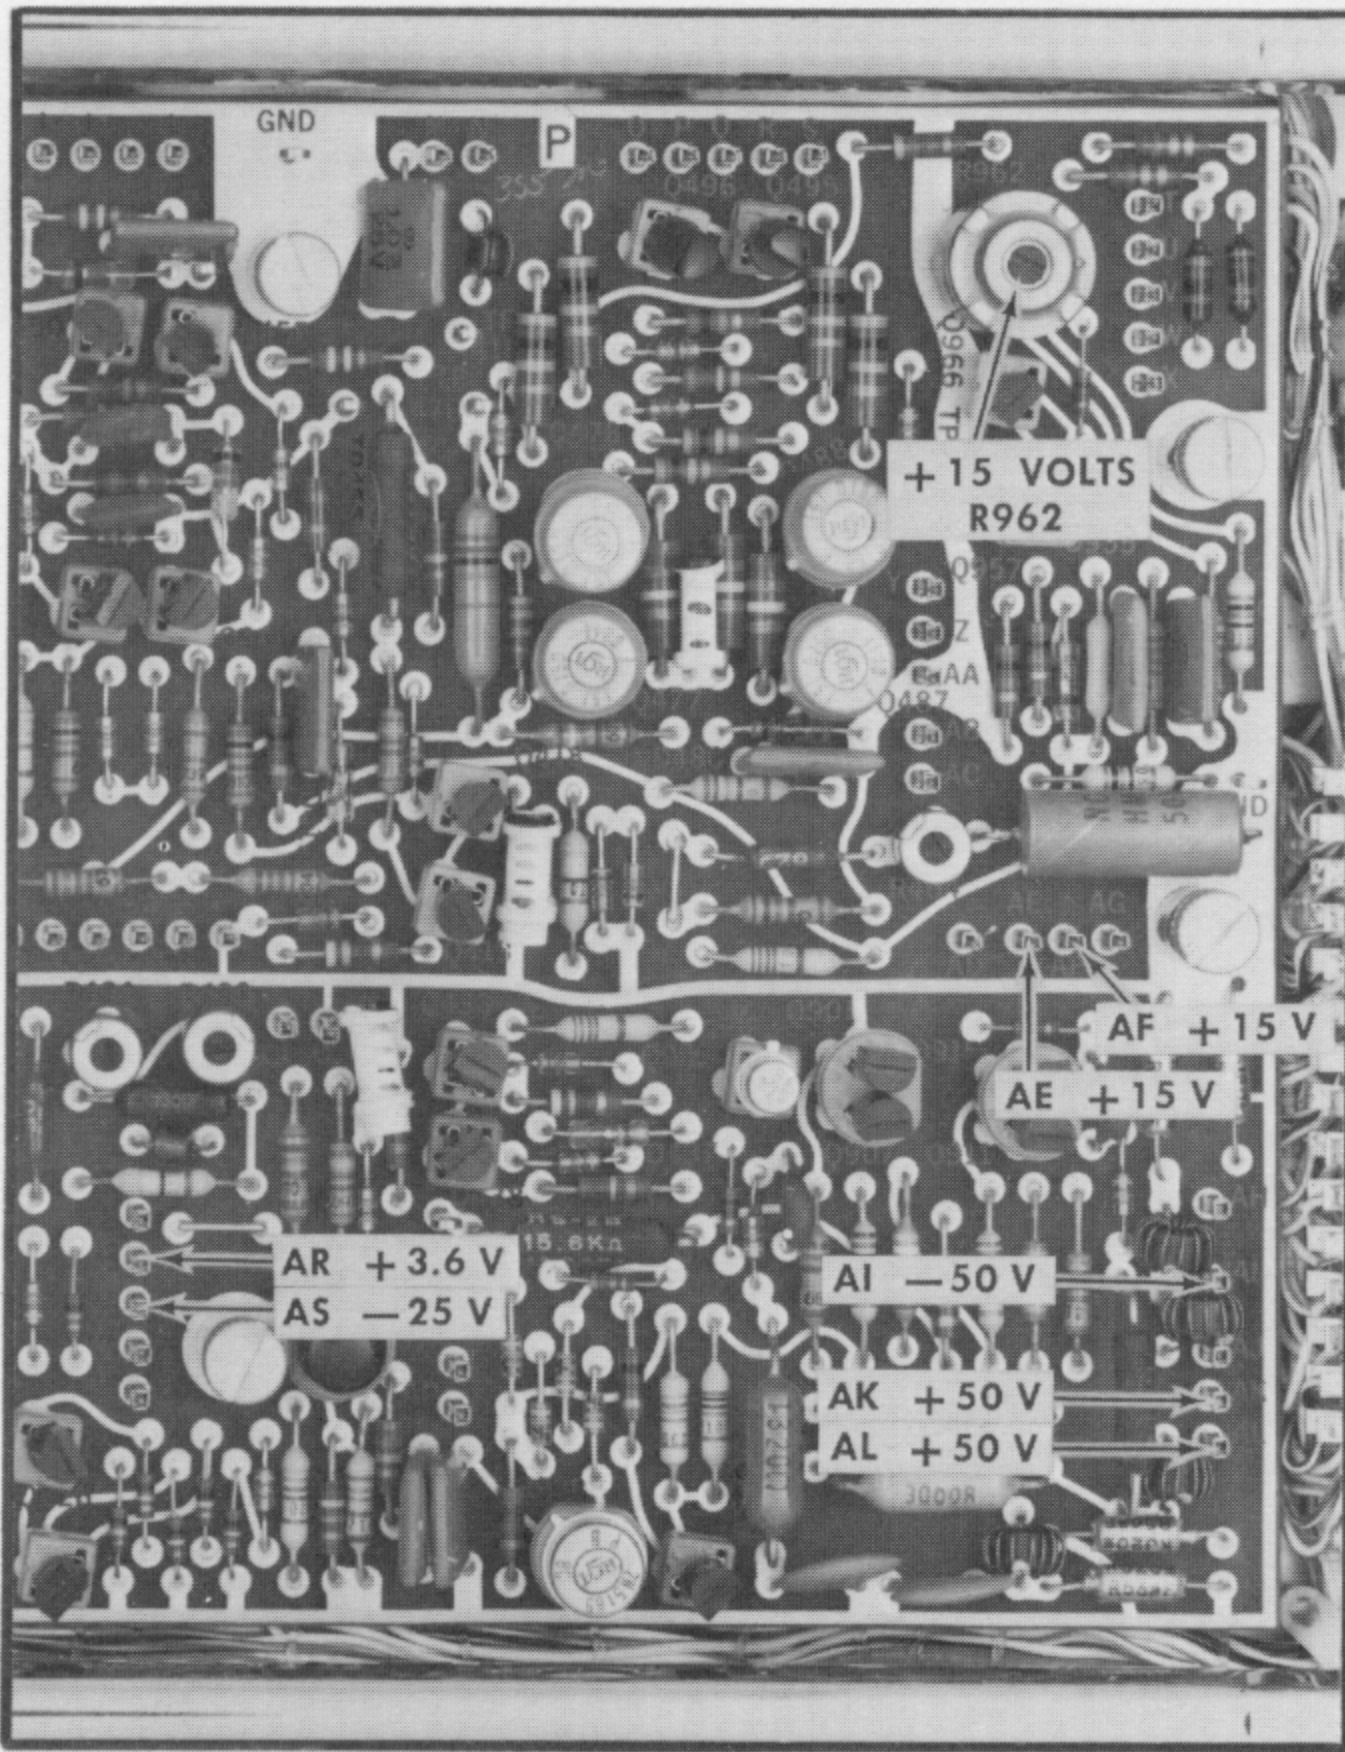

Fig. 7-3. Location of power supply test points and +15 Volt adjustment, instrument right side.
a. Refer to Fig. 7-3 to locate the power supply test points and the +15 Volt adjustment. Location is on the Output circuit board, instrument right side.